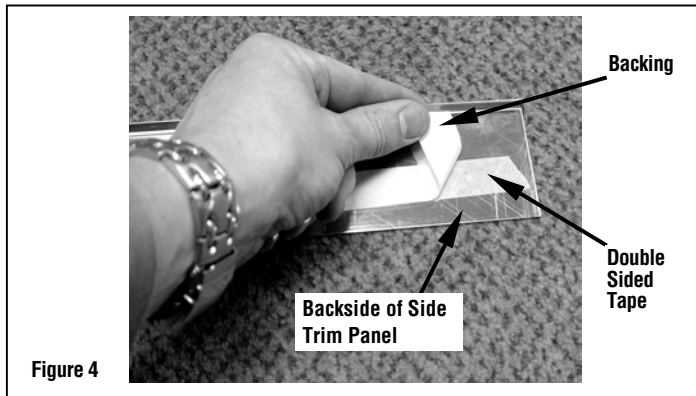

Figure 4
Step 3. Peel off the backing on the double-sided tape on the backside of each side trim panel (see **Figure 4**). Avoid touching the sticky surface of the tape.